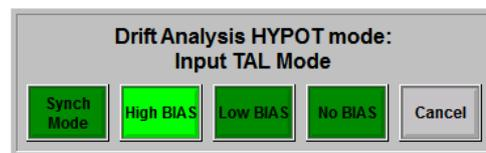

Figure 10.83: TAL Mode Selection Dialog Box
- select a desired TAL mode in the opened dialog box (see Figure 10.83).